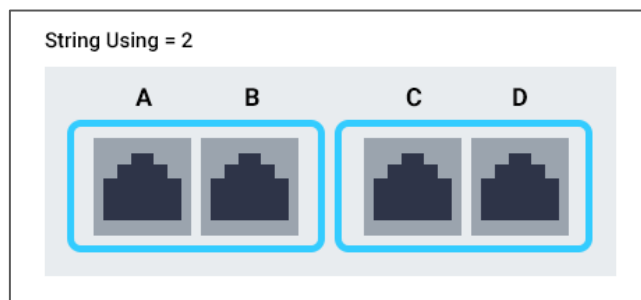

Figure 3.45 Two strings merging in one string
3.44 Figure 1.1). This configuration allows 200 batteries per string. The other is to combine two strings in one (Figure 3.45). This configuration allows 100 batteries per string.